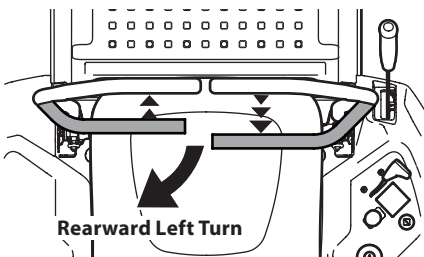

Figure 27
1. To turn to the left while traveling in reverse, move the left drive control lever forward of the right drive control lever. See Figure 27.